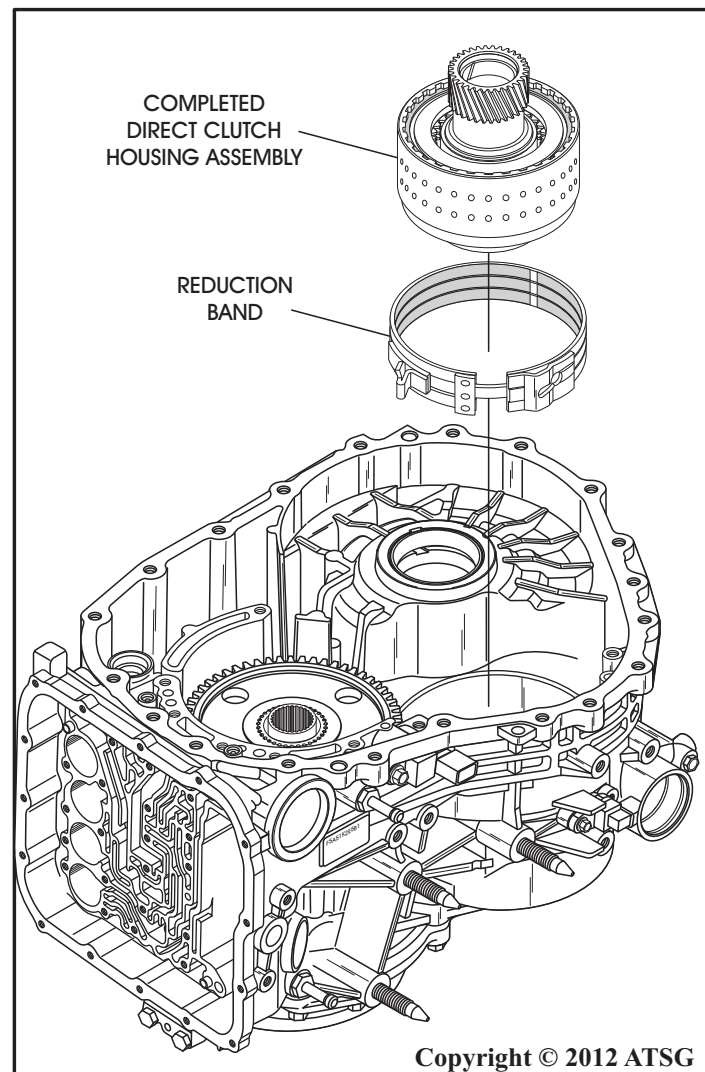

Figure 278
79. Install the reduction band into the case, as shown in Figure 278, and ensure it is seated on the band anchor plug properly.
80. Install the completed direct clutch housing into the case, as shown in Figure 278, by rotating counter-clockwise until fully seated.